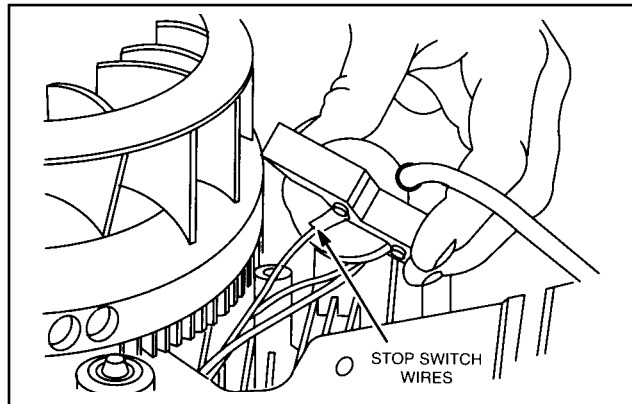

Fig. 1 - Removing Armature
3. Remove armature screws and lift off armature(s), Fig. 1.